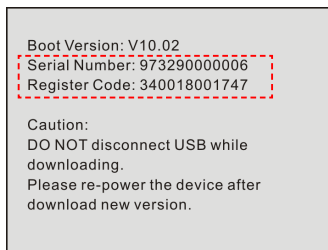

Figure 7-7
3. Press [OK] to configure this tool as a USB device. See Figure 7-7.